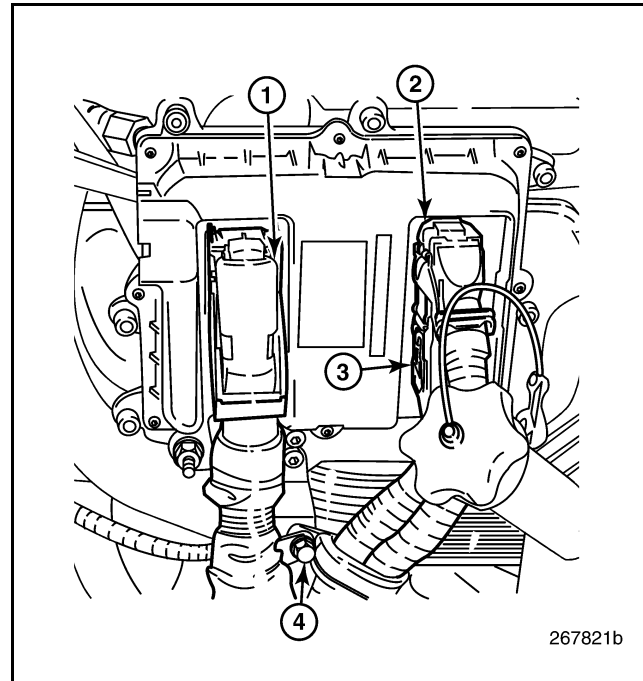

Figure 461 — EECU Connectors
3. Disconnect the wiring harness connectors from the EECU (Figure 461).
- Reinstall the bolt securing the EECU wiring harness clamps to the EECU cooling plate bracket (Figure 461).
- Connect the wiring harness to the EECU (Figure 461).